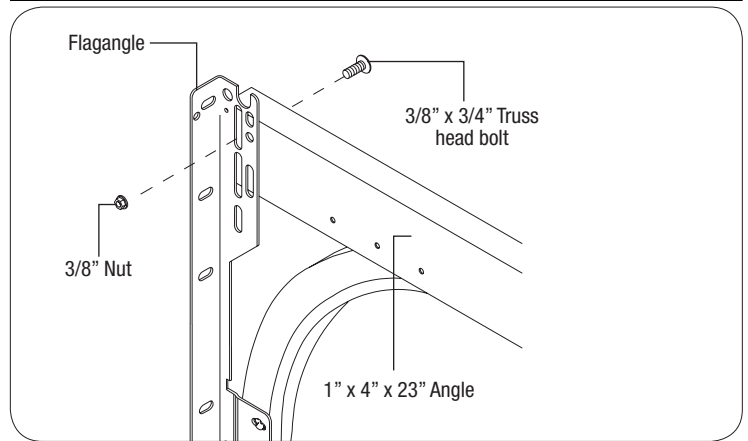

FIG. 9.1
Secure 1" x 4" x 23" horizontal angle to the flag angle with (1) 3/8 x 3/4" truss head bolt and nut, as shown in **FIG. 9.1**.